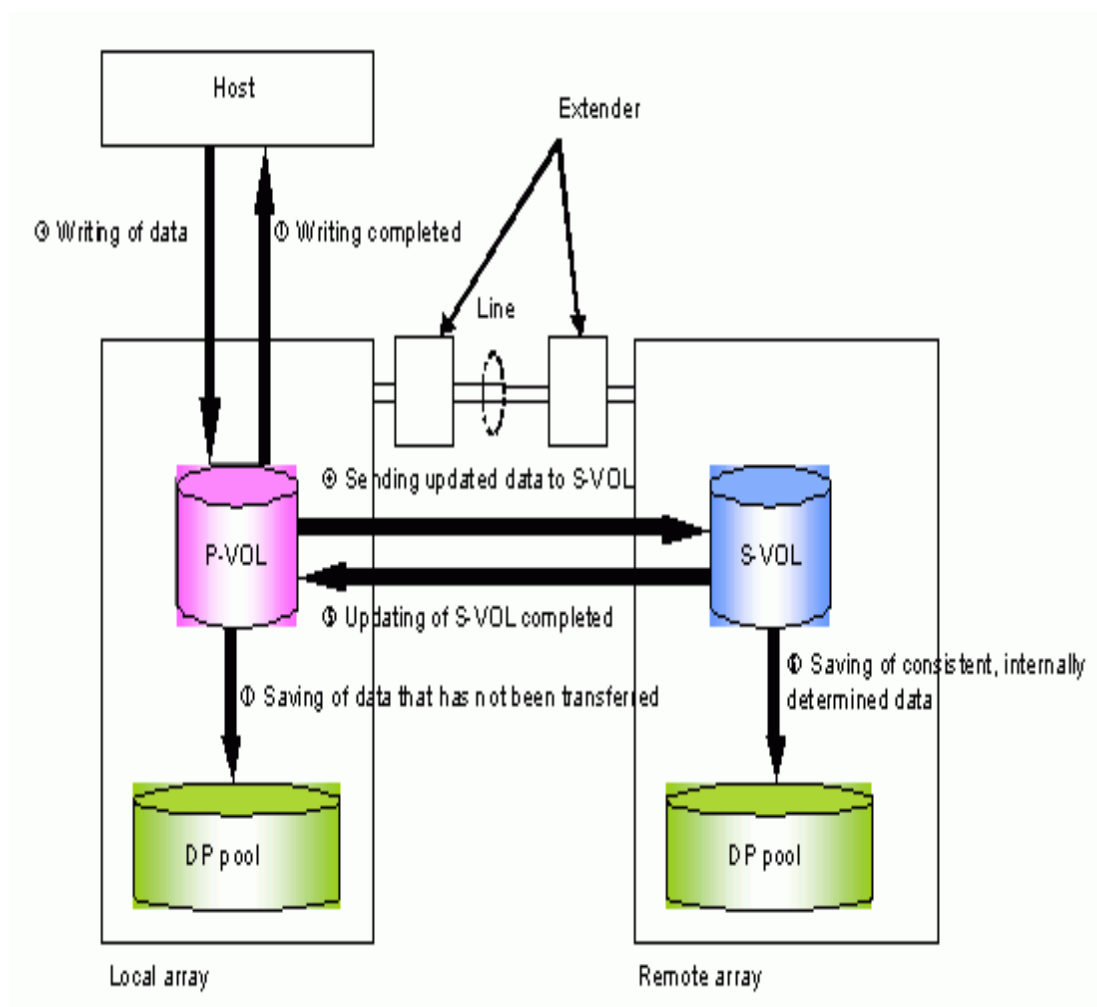

Figure 17-1: TCE operational overview
If the host writes data to the P-VOL when a TCE pair has been created for the P-VOL and S-VOL (See Figure 17-1 (1)) the local array immediately returns a response to the host (2). This completes the I/O processing. The array performs the subsequent processing independently from the I/O processing.